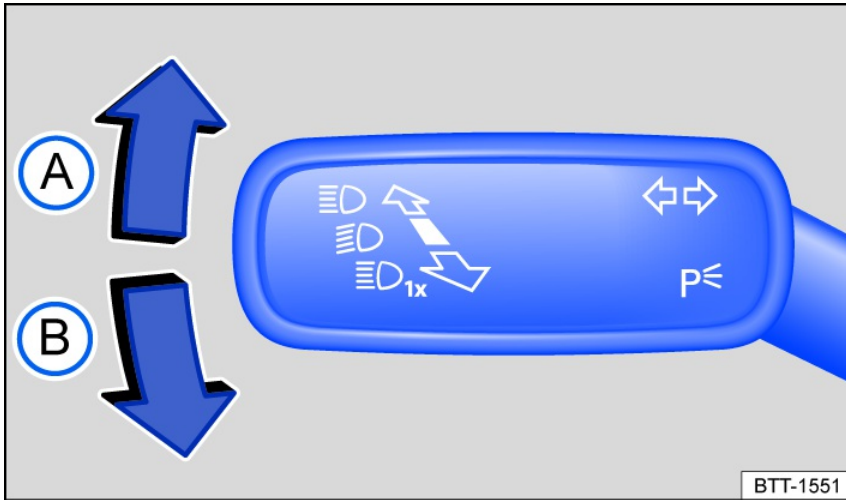

Fig. 93 On the left side of the steering column: turn signal and high beam lever.
- Move the turn signal and high beam lever from the center position to the following position *fig. 93*: